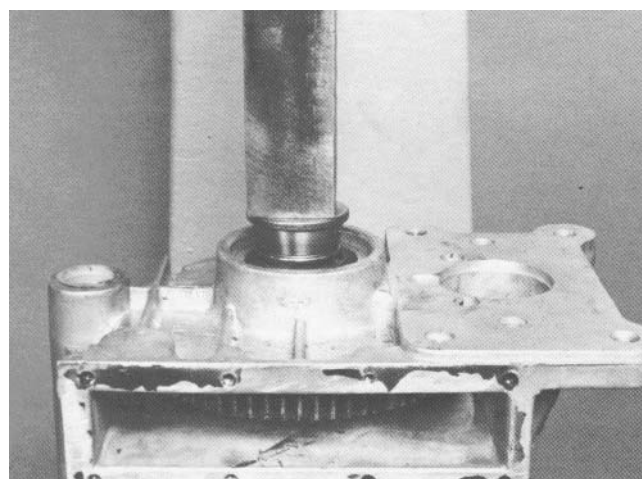

Figure 44
9. With a hollow press sleeve of proper diameter, press on the outer bearing cone race until the drive pinion seats in the carrier and a slight drag is felt when the gear is rotated by hand (Fig. 44). If more than 2 to 13 in-lb (.2 to 1.5 N-m) torque is required to rotate the pinion and spur gear, tap the pinion shaft with a soft mallet until the drag is reduced.